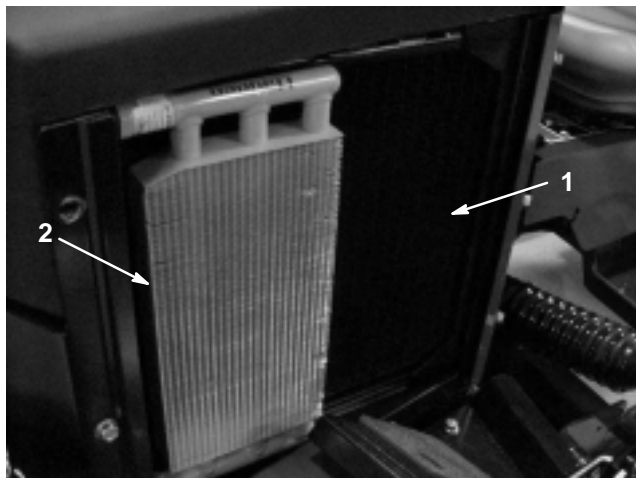

Figure 47
3. Thoroughly clean the oil cooler (Fig. 47) and remove any other debris that may have collected around the components.